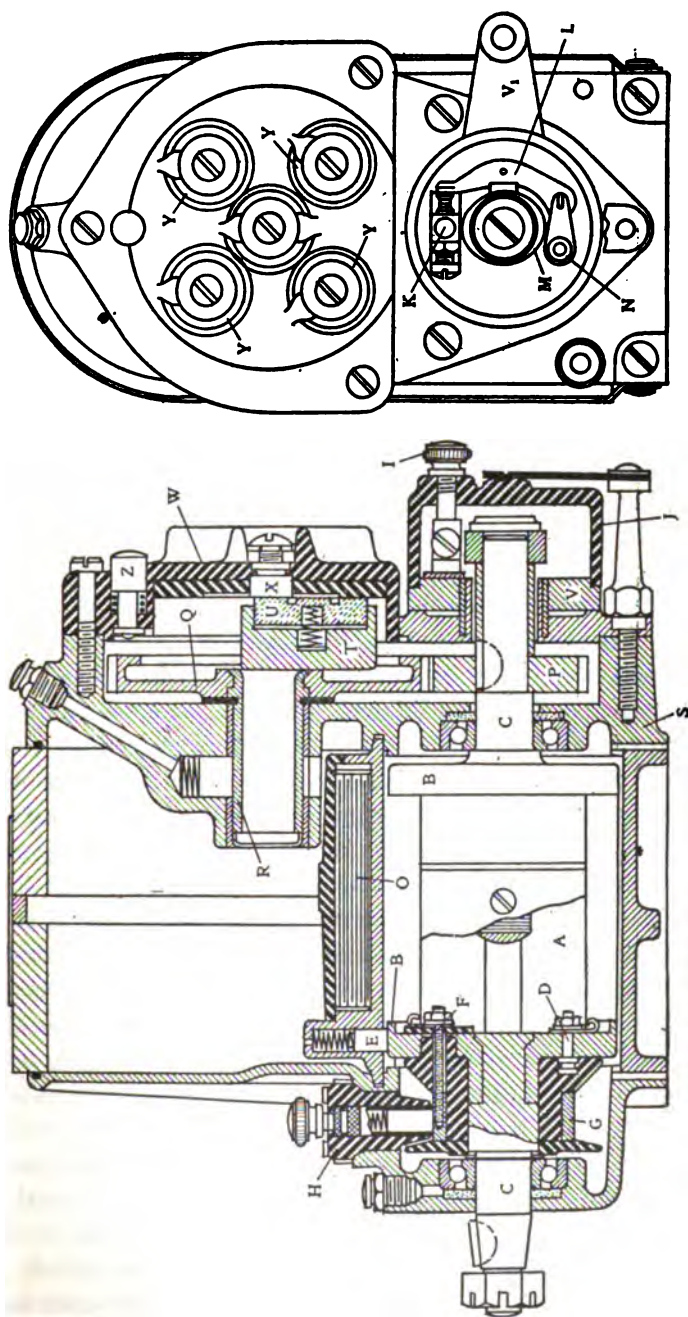

Fig. 82. Section and End Elevation of Remy Dual Type Magneto
*Remy Type.* Prior to the general adoption of electric lighting and starting systems, the dual type of ignition system was almost universally employed on the lower and medium priced cars, many thousands of which are still in service. The Remy magneto, a section and end elevation of which are shown in Fig. 82, is typical of the class used for this service. The armature *A* is of the *H* or shuttle type, of laminated construction fitted with cast bronze heads *B*. It carries a single winding, one end of which is grounded by connecting it to the rear bronze head at *D*, the ground connection being further insured by the carbon brush *E*, pressed against the head by a spring. The other end of the armature winding is connected through an insulated stud *F* to the collector ring *G* from which the current is taken by a carbon brush in the holder *H*. From this brush a low-tension cable runs to the induction coil mounted on the dash.
at the upper dead-center position at the beginning of the power stroke, and while the crankshaft of the engine and the armature shaft of the magneto are in these relative positions, the magneto driving gears must be meshed and the magneto gear secured on the tapered end of the armature shaft by means of a Woodruff key which is held in place by a bushing and nut, as shown in the sectional view, Fig. 82.